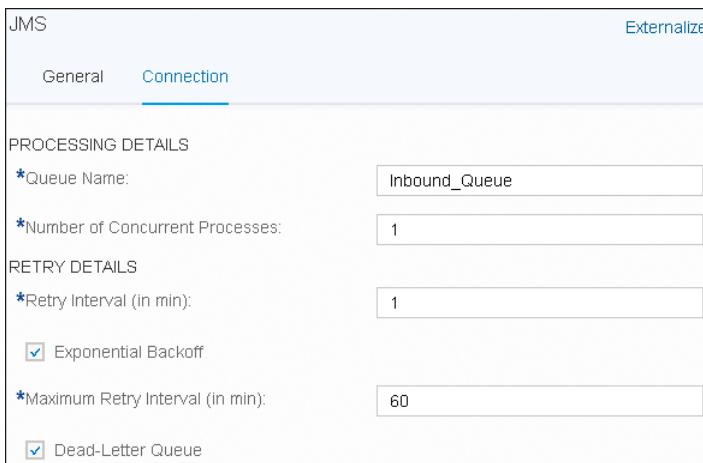

Figure 5.86 JMS Sender Channel Configuration
3. In the **JMS** channel's **Processing** tab, configure the properties as shown in Figure 5.86: